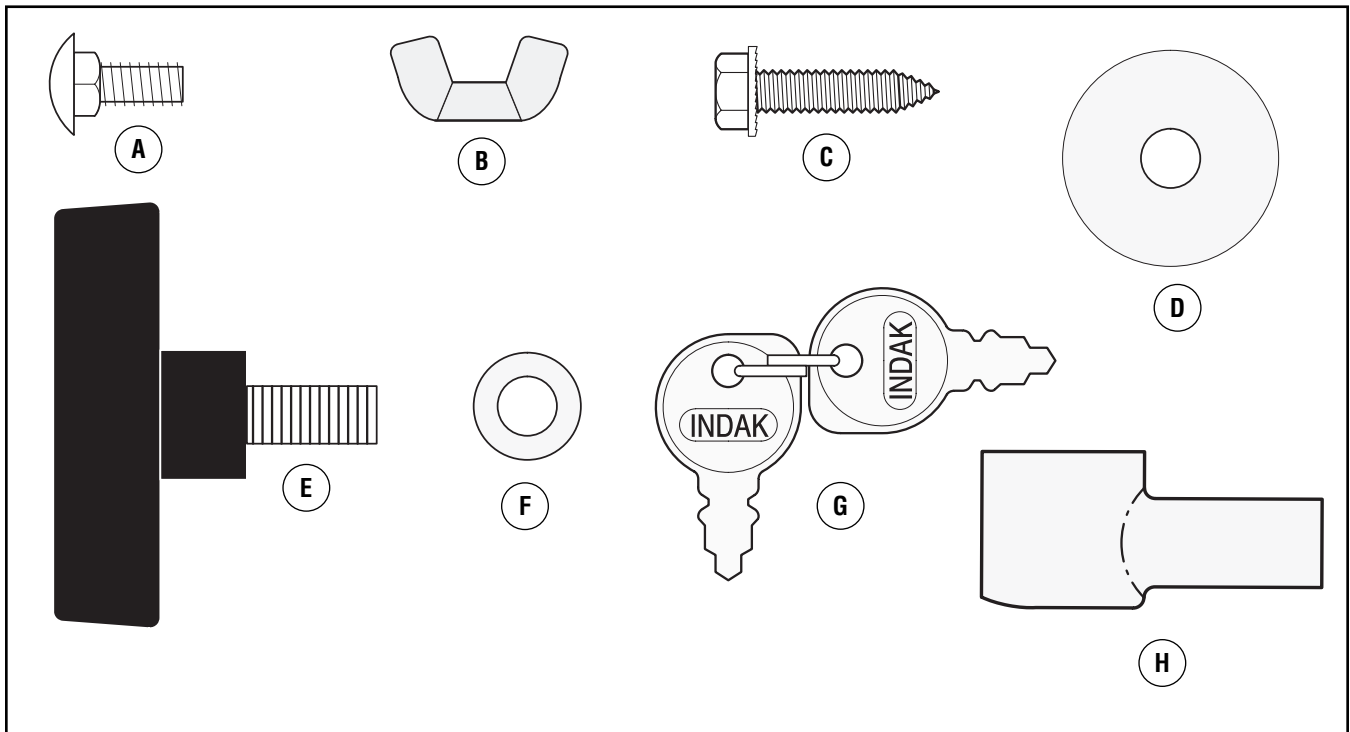

Figure 3: Parts bag components
A - Wing bolt (Also see 'E' in Figure 3)
B - Washer (Also see 'F' in Figure 3)
A - Screw (Also see 'C' in Figure 3)
B - Washer (Also see 'D' in Figure 3)
- A - Carriage bolt (Also see 'A' in Figure 3)
- B - Wing nut (Also see 'B' in Figure 3)
- H - Terminal cover (Also see 'H' in Figure 3)